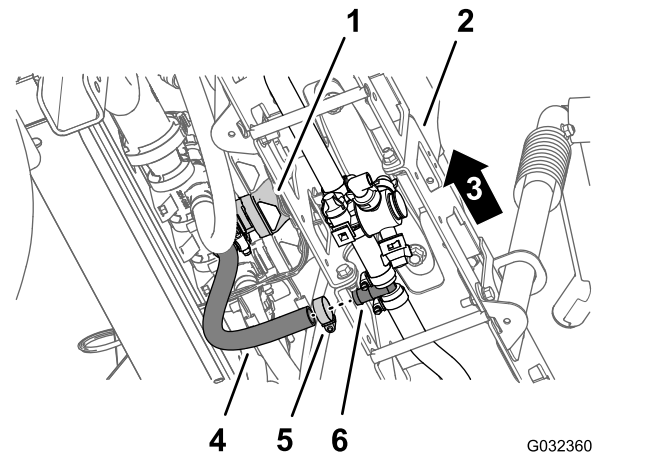

Figure 38
- Under the center-boom section, remove the hose clamp that secures the supply hose for the boom section to the barbed T-fitting (Figure 38).